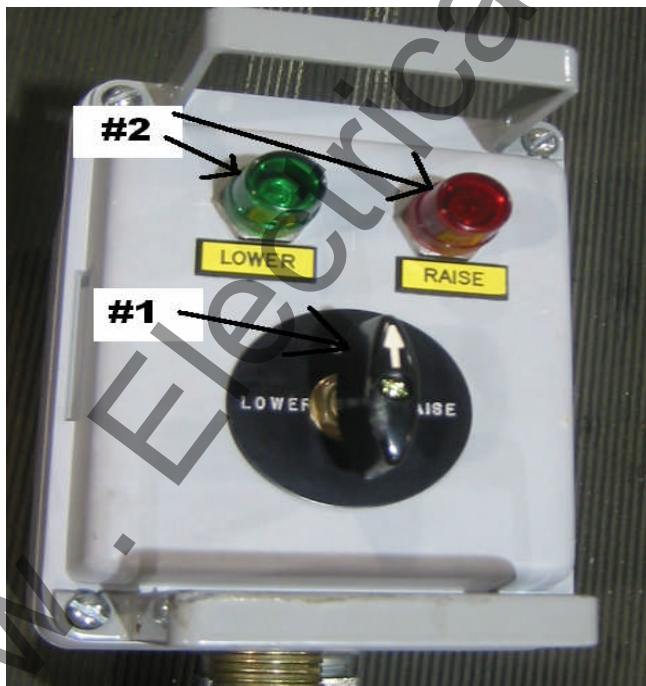

Figure 2 – Control Box
2. On the remote control box move the power switch to middle/off position {Figure 2, Item 1}
10. With the breaker fully inserted into the cubicle; move the snap switch {Figure 2, Item 1} on the remote control box to the "Raise" position